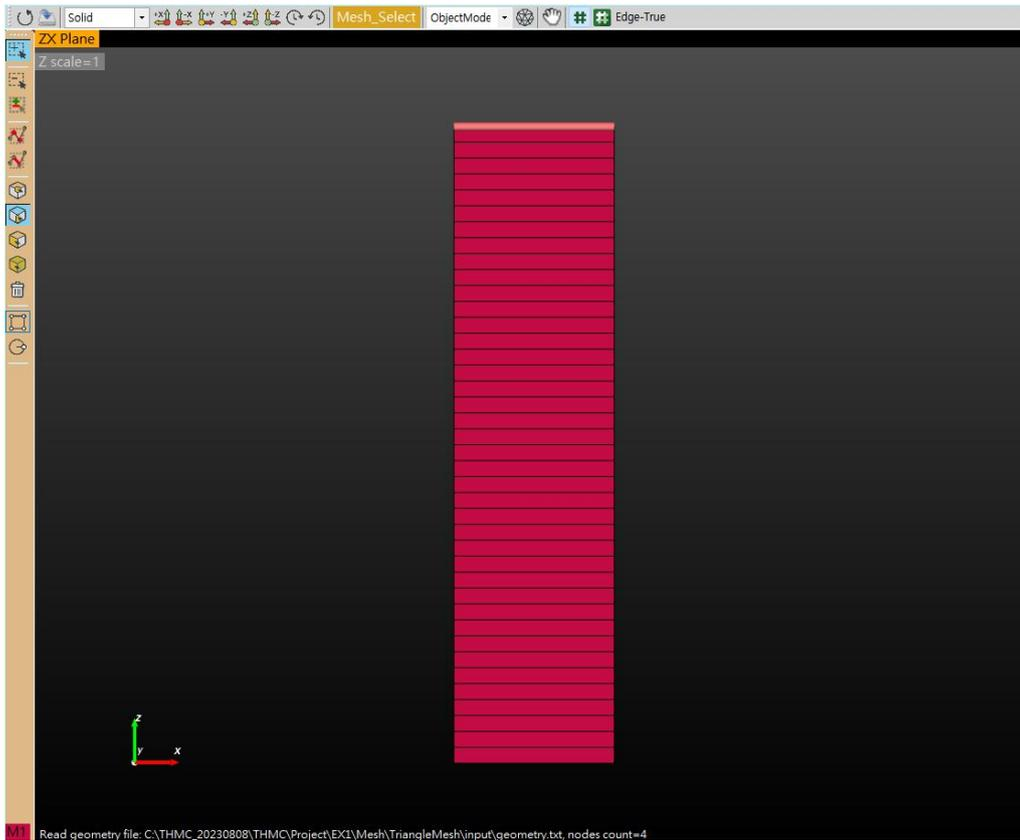

Figure 1.26. Window screen for setting variable boundary condition.
26. As a result, you can see that the top boundary side is selected, as shown in Figure 1.26.